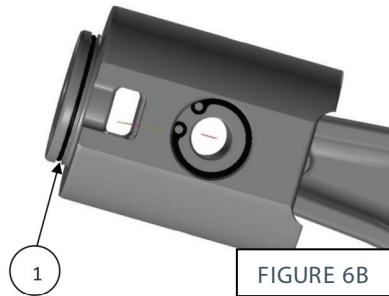

FIGURE 6B
2. If the plunger guides have been disassembled, check the condition and placement of the o-ring (figure 6B, item 1) before reassembly. Replace as necessary.